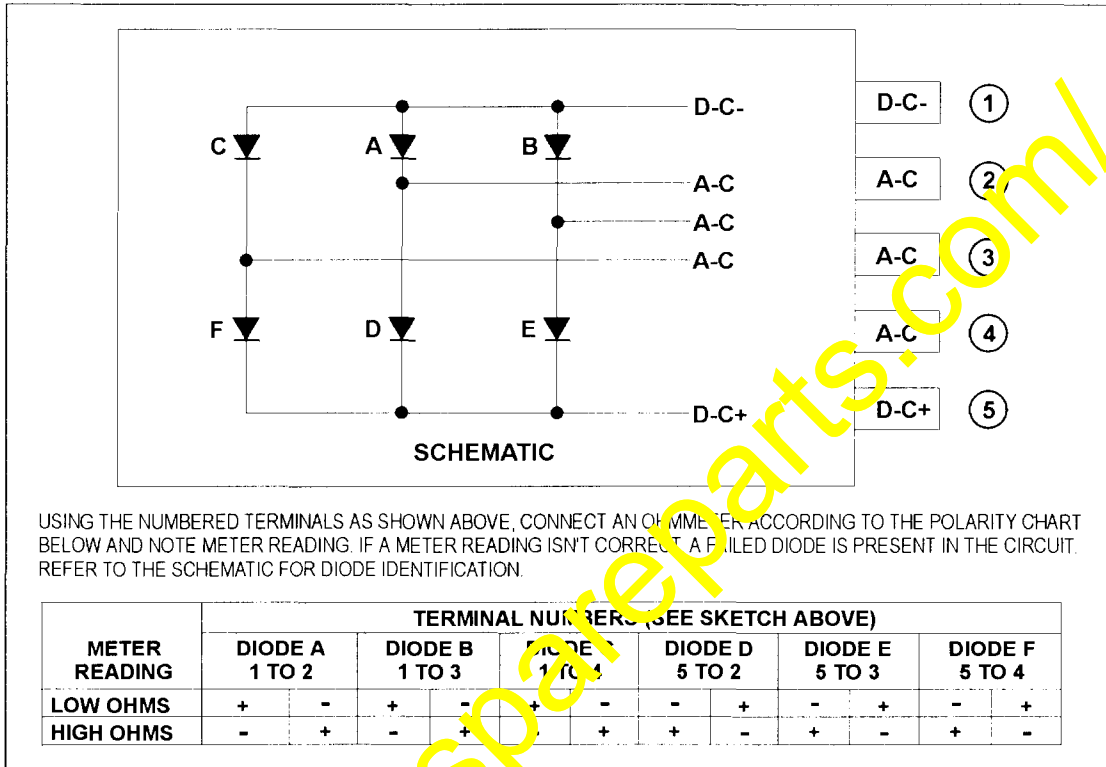

Figure 2 Schematic and Polarity Chart
Only failed heat sink assemblies should be replaced. If a problem is suspected in the rectifier panel, use the following procedure and refer to Figure 2 in order to troubleshoot the rectifier panel:
- b. Using an ohmmeter, connect the (+) and (-) leads according to Figure 2 and note the readings.